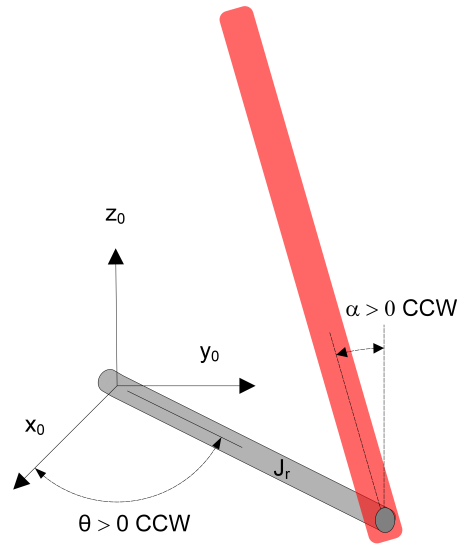

Figure 1.1: Model conventions of rotary pendulum
The rotary pendulum system, also known as the Furuta Pendulum, is a classic system often used to teach modeling and control in physics and engineering. The convention used for the modeling of the QUBE-Servo 2 rotary pendulum is shown in Figure 1.1.
9. Rotate the pendulum to the upright vertical position and ensure the angle is measured correctly and it follows the model conventions shown in Figure 1.1. Capture the response of the pendulum being raised to the inverted position. Explain what the bias and modulus functions do?